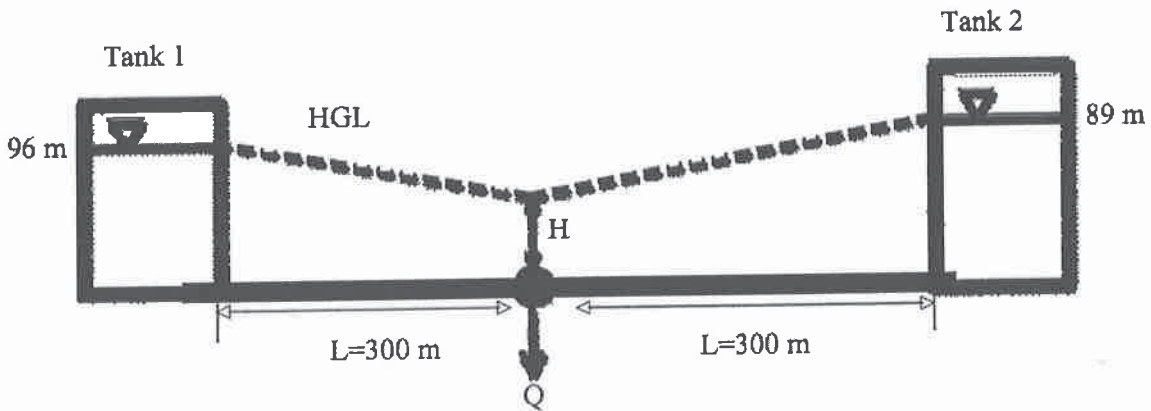

Figure 4. Water supply system.
4. Two elevated tanks supply water to a demand node with a valve at its outlet (Figure 4). The elevated tanks are cylindrical and have diameters of 5 m. The initial water level in Tank 1 is 96 m and the initial water level in Tank 2 is 89 m. The valve is half open and has a discharge coefficient of  $0.15 \text{ m}^{5/2}/\text{s}$ . The initial steady-state flow through the valve is 350 L/s. The valve discharges to the atmosphere. Both pipes have a Hazen-Williams 'C' factor of 100, an internal diameter of 250 mm, and a length of 300 m. Assuming quasi-steady conditions in the system, determine the pressure head at the demand node and the flow in the pipes in the first three time steps of the simulation. Use a time step of 15 seconds to carry out the quasi-steady state simulation.